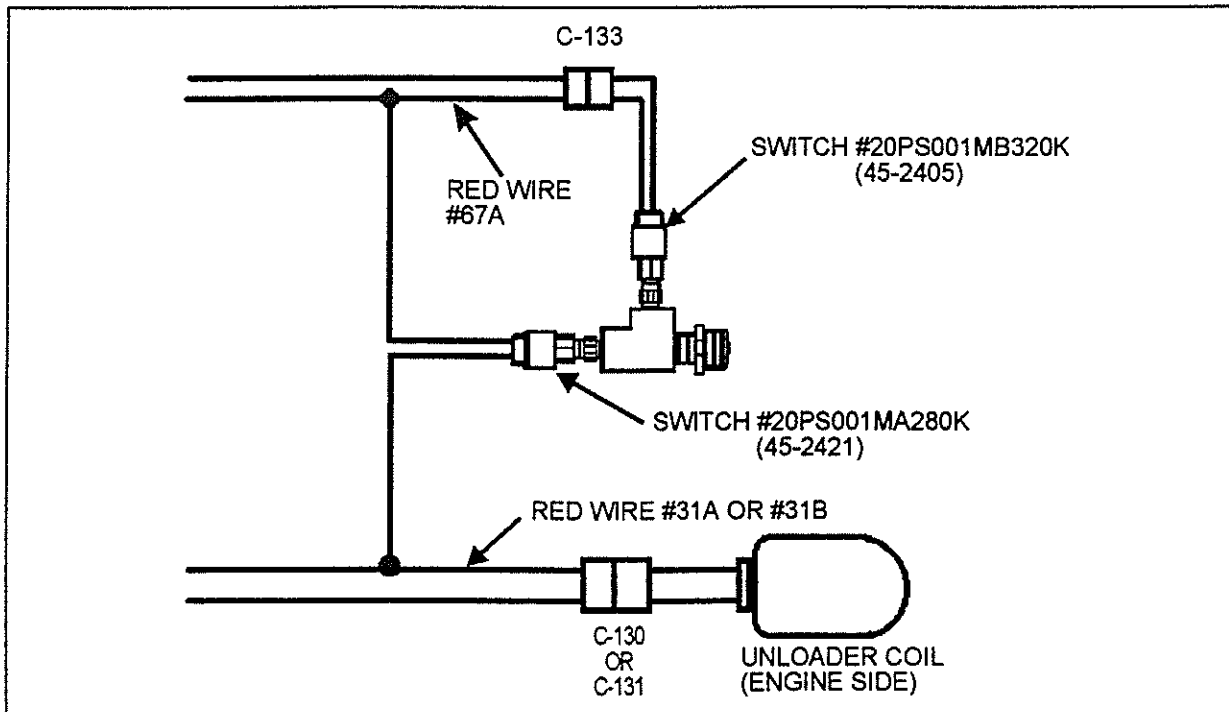

Fig. 3 - High Pressure Switch Wiring
9. Join and solder one wire of new high pressure switch #45-2421 to wire #67A as illustrated in figure 3. Insulate the junction with electric tape.
11. Join and solder the second wire of new high pressure switch #45-2421 to wire #31A as illustrated in figure 3. Insulate the junction with electric tape.